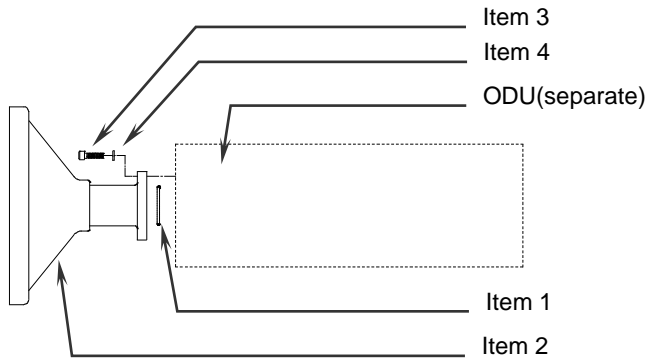

Figure 29: Ku-Band Feed Assembly
1. Attach the feed horn (item #1) to the ODU using the six #6-32 x .50" screws, lock washers, and o-ring provided, items 2 - 4. Apply silicone grease to o-ring before assembly. See Figure 29, Ku-Band Feed Assembly. Tighten securely.